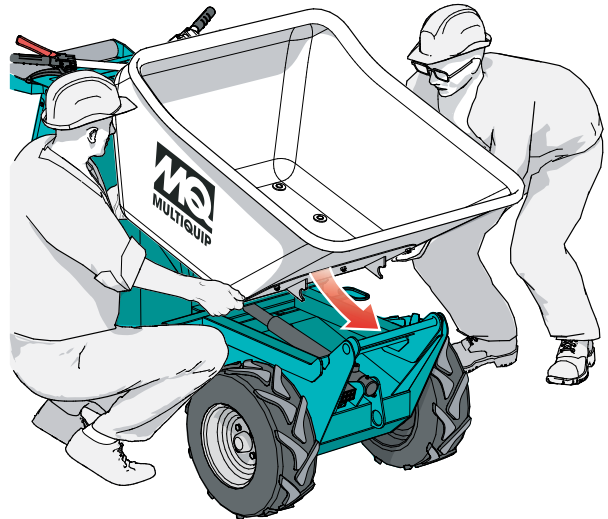

Figure 32. Tub Placement
3. With **two people**, lift the tub onto the chassis (Figure 32). Make sure the tub sits securely on the chassis.